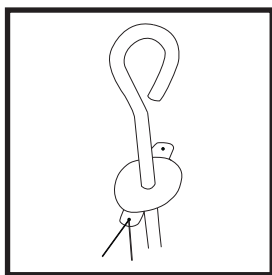

Fig. 2
5. Unroll the measuring tool for anchors and find the spike (Fig. 2).